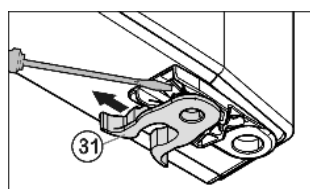

Fig. 6
- Transfer the spring clamp *Fig. 6 (31)*: Depress the latch nose and pull the spring clamp off over it.